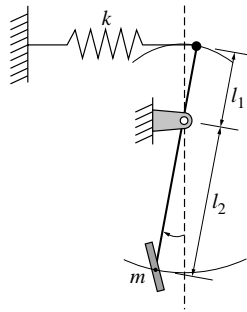

Figure P1.78
- 1.78** A control pedal of an aircraft can be modeled as the single-degree-of-freedom system of Figure P1.78. Consider the lever as a massless shaft and the pedal as a lumped mass at the end of the shaft. Use the energy method to determine the equation of motion in θ and calculate the natural frequency of the system. Assume the spring to be unstretched at $\theta = 0$.